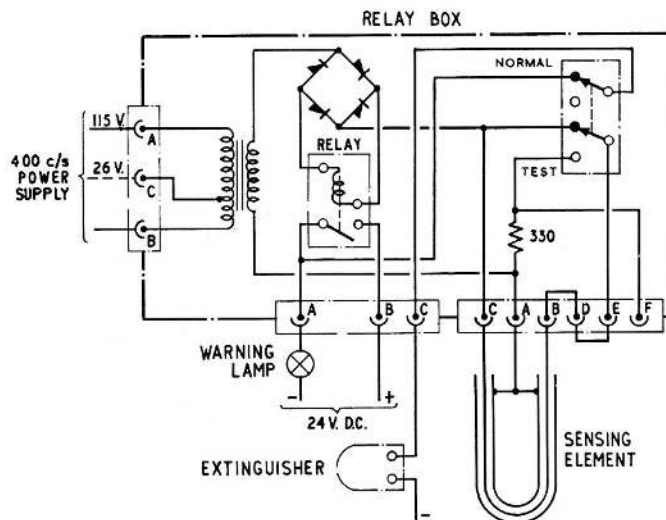

Fig. 3. Circuit diagram
6. A typical circuit diagram of the relay box connected to a sensing element and extinguisher is shown in fig. 3. From this diagram it will be seen that with the test switch in the normal position, the transformer secondary circuit is completed through the filling material of the element.